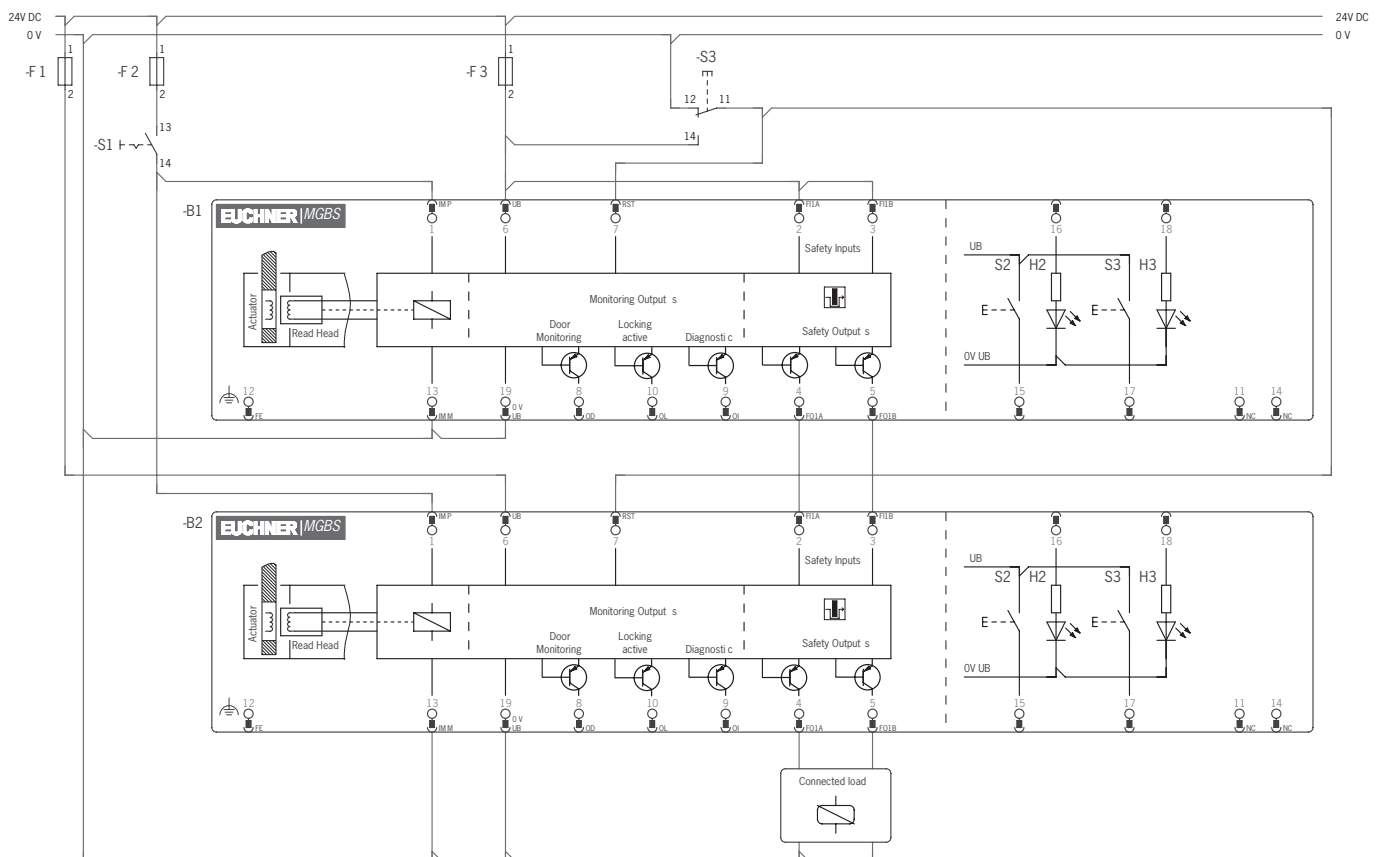

Fig. 6: Connection example for a switch chain; version with plug connector M23
- A common signal must be used for all locking modules in the chain. This can be a changeover switch or the output of a control system. A pushbutton is not suitable because the reset must always be connected to GND during operation (see switch S3 in Fig. 6 on page 34).
The RST input must be connected as shown in *Fig. 6 on page 34* to permit this.